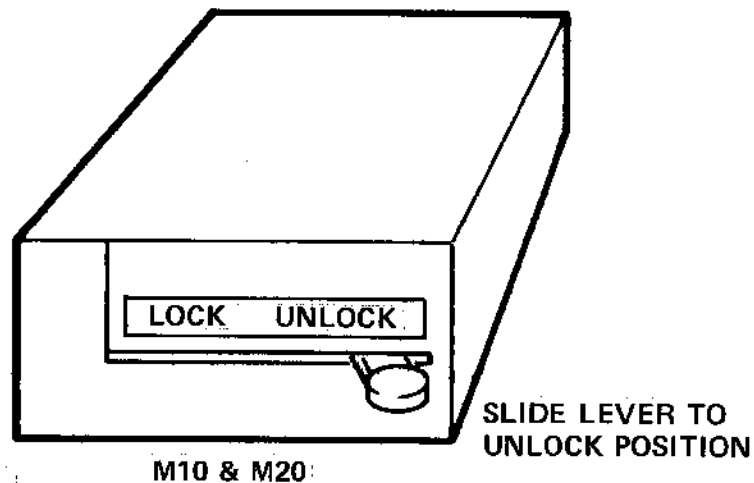

Figure 3-9: M10/M20 Disk Drive (Location of Head Lock)
1. Locate the disk drive head lock, as illustrated in Figure 3-9.